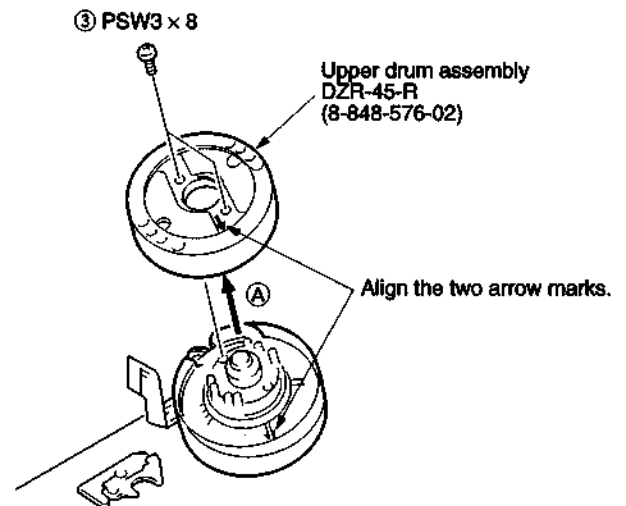

Fig. 5
- 3) Remove two screws ③ (PSW3×8) and remove the rotary upper drum in the direction of ④. (Refer to Fig. 5.)
- 2) Align \Rightarrow mark of the rotary upper drum board with the \Rightarrow mark of the rotary transformer board so that the screw hole on the upper drum and that on the lower drum are aligned. (Refer to Fig. 5.)
- 4) Tighten the two screws ③ (PSW3×8). (Refer to Fig. 5.)
- 5) Fix the earth shaft ② by tightening the screw ① (+P3×8) so that protrusion at the tip of the earth shaft contacts the center of the drum shaft.